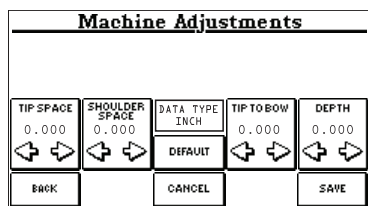

Fig. 7
12. If the cuts are not within the .002-inch tolerance, then run the Auto Calibration again, cut 5-depths on a new key blank, and measure them. If, after the 2nd calibration, the machine is still off by more than .002-inch (or you need even tighter tolerances), then use the Machine Adjustments function to make small adjustments in the depths (**Fig. 7**). Click on **"TOOLS"**, then **"Machine Adjustments"**.